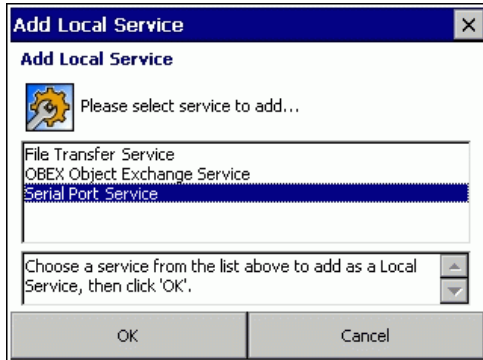

Figure 2-130 Add Local Service Screen
1. Select the *Services* tab (see Figure 2-130 on page 2-98).